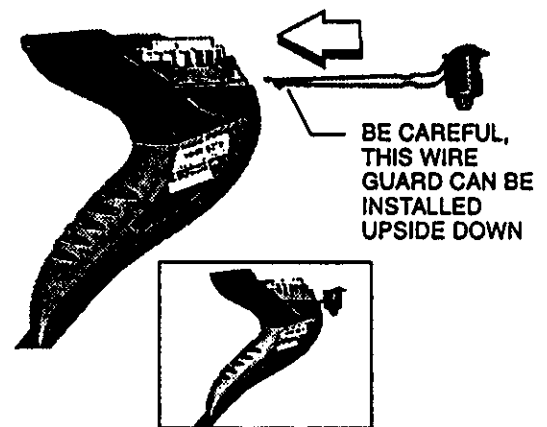

Fig. 2
3. Align edging guide with mating grooves and push firmly in the direction shown until an audible snap is heard (Figure 2).